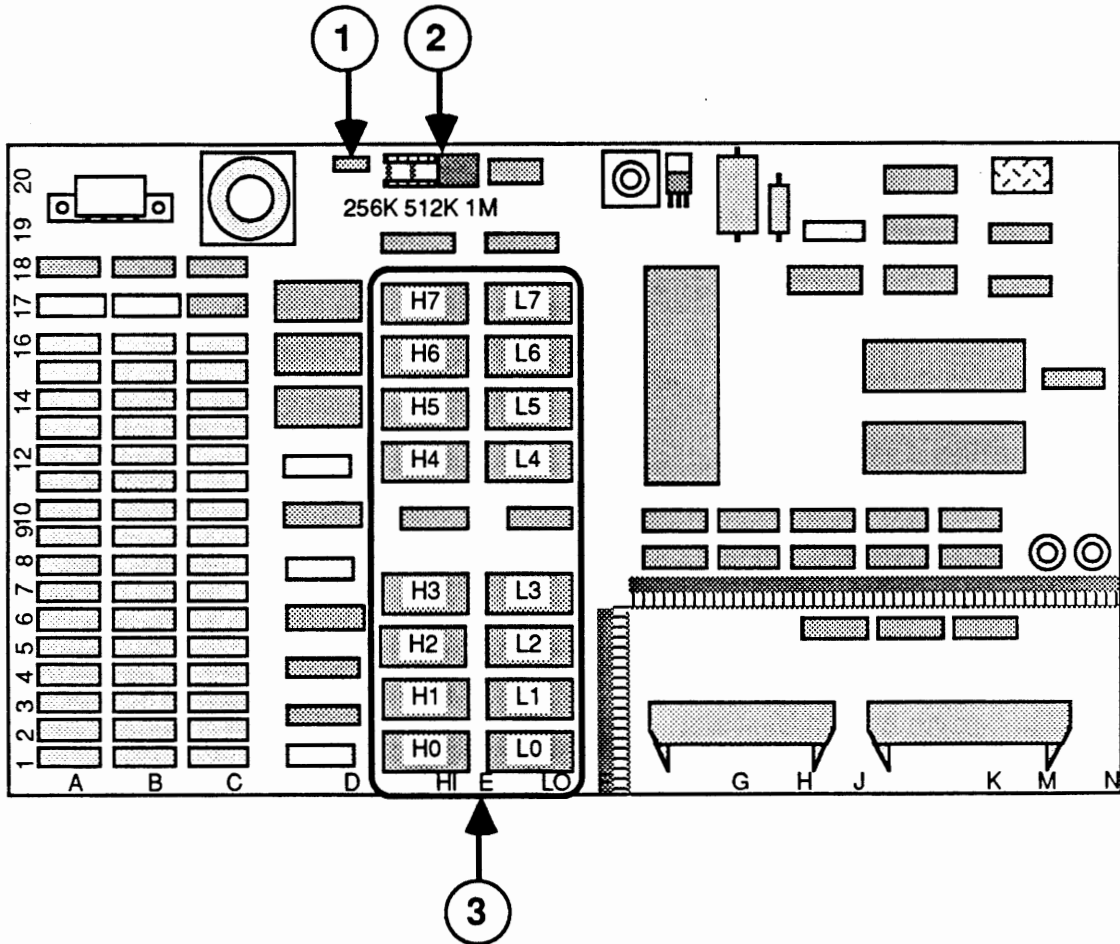

FIGURE 2
If you have the 1M I/O board (Figure 2), install the configuration block into the eight holes of the socket labeled "512K" (Figure 2, #2).
7. If you are installing the upgrade kit on an I/O board with the 512K/1M jumper--as shown in Figure 2, #1--place the jumper plug on the set of pins marked "512K."